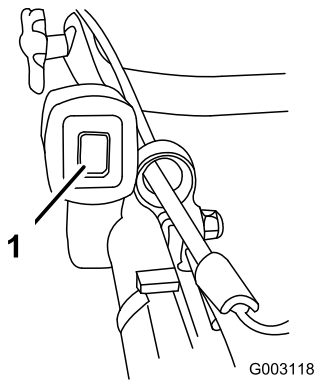

Figure 18
1. Push the ignition toggle switch to the Stop position (Figure 18).